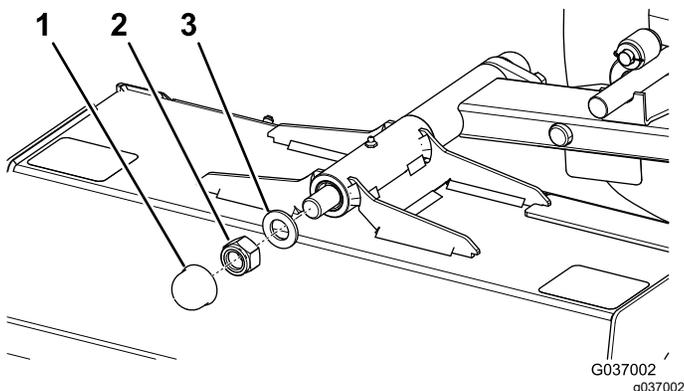

Figure 78
4. Remove the cap and remove the nut (M24) and washer from the pivot shaft (Figure 78).
5. Install the washer and locknut (M24) and tighten the locknut (Figure 78).